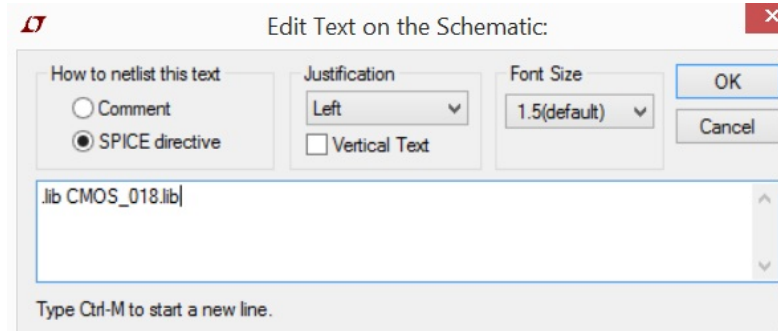

Figure 19. Add SPICE directive
- F. Click  to add SPICE directive. Enter **.lib CMOS\_018.lib** in the blank field as shown in Figure 19, click **OK** and then **click on the schematic window** to add it.